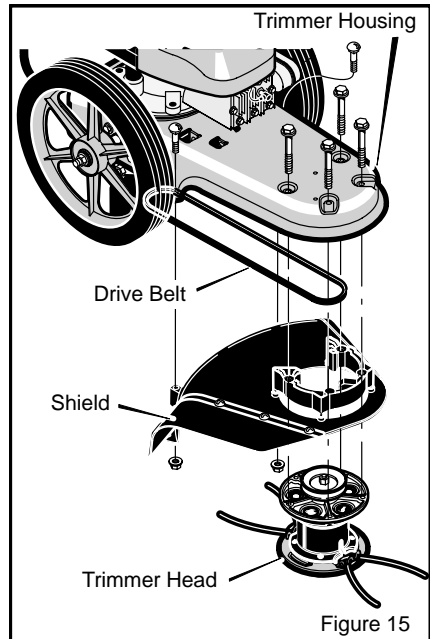

Figure 15
1. Remove the two fasteners that hold the rear of the **shield** to the **trimmer housing** (See Figure 15).